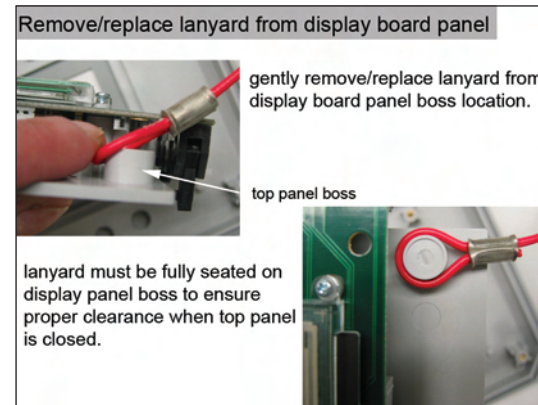

Figure 3.7
4. Carefully lift out the display board and remove the lanyard from the display board panel - figure 3.7. Set display board panel and top panel aside.
- Reattach lanyard by placing lanyard at proper location of display board panel. Make sure lanyard is fully seated on display panel boss to ensure proper clearance when front panel is closed- figure 3.7.